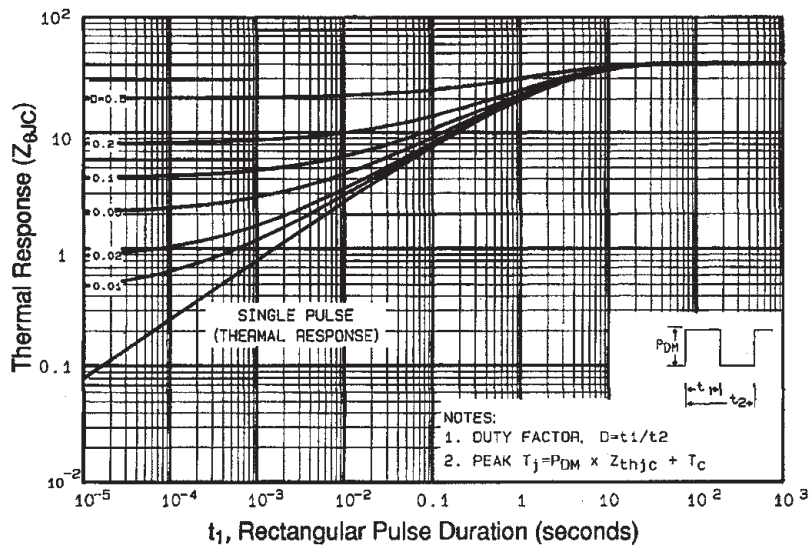

Fig 11. Maximum Effective Transient Thermal Impedance, Junction-to-Case
- ① Repetitive rating; pulse width limited by max. junction temperature. (See fig. 11)
- ② $V_{DD}=25V$, starting $T_J = 25^\circ\text{C}$, $L = 16\text{mH}$